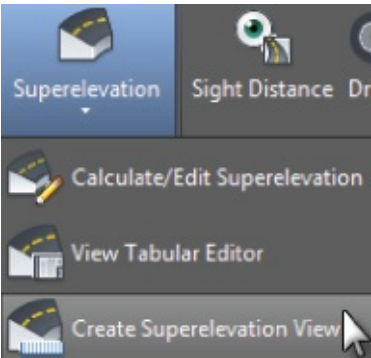

Figure 11.25 Creating a superelevation view
4. From the Alignment contextual tab > Modify panel, click Superelevation > Create Superelevation View, as shown in Figure 11.25.